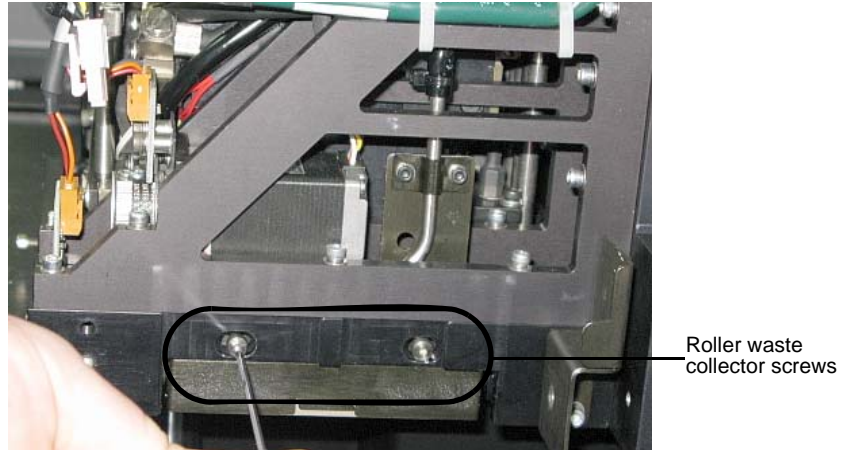

Figure 6-31: Removing the roller waste collector covering
7. Return the roller waste collector to the print block and screw on the covering (see figure 6-31 on page 6-27).